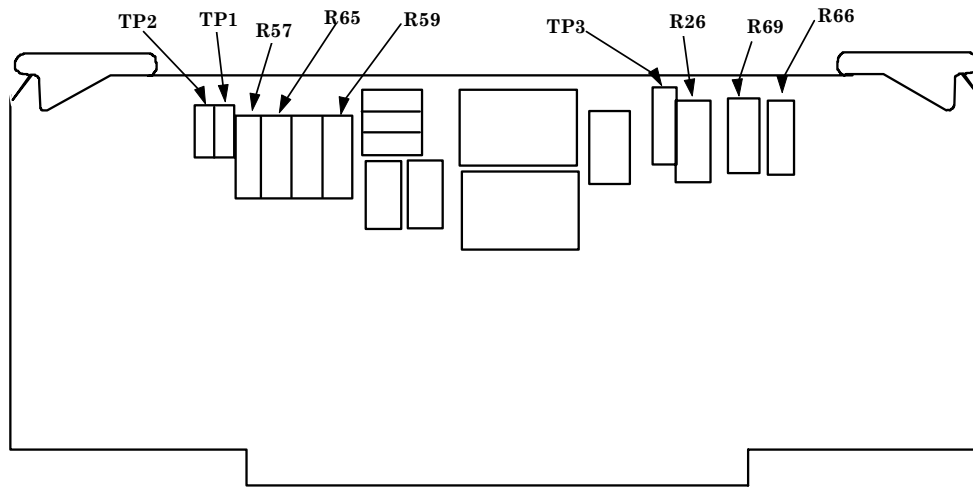

Figure 3. Temperature circuit board.
(1) Connect frequency counter between TP3 (+) and TP2 (-) (fig. 3). Frequency counter will indicate between 97.0 and 103.0 μ s; if not, adjust R26 (fig. 3) for a 100 μ s indication on frequency counter (R).
(2) Connect multimeter between TP1 (+) and TP2 (-) (fig. 3). If multimeter does not indicate between 7.255 and 7.295 mV dc, adjust R65 (fig. 3) for an indication of 7.275 mV dc.
(3) Adjust calibrator for a dc millivolt output equal to ambient temperature obtained in table 3, plus .017 mV.
(4) If **TEMP °C** indicator does not indicate **0**, adjust R57 (fig. 3) for an indication of 0 (R).
(5) Adjust calibrator for a 55.820 mV dc, less millivolt equivalent to ambient temperature, output.
(6) Adjust R59 (fig. 3) for **TEMP °C** indicator reading of **1397 (R)**.
(7) Repeat **a (1)** and **a (3)** through (8) above, as necessary, to ensure **TEMP °C** indicator is in tolerance at both points.
(5) Adjust R66 on temperature board (fig. 3) for **0** indication on **TEMP °C** indicator (R).
(6) Adjust R69 (fig. 3) for **800** indication on **TEMP °C** indicator (R).